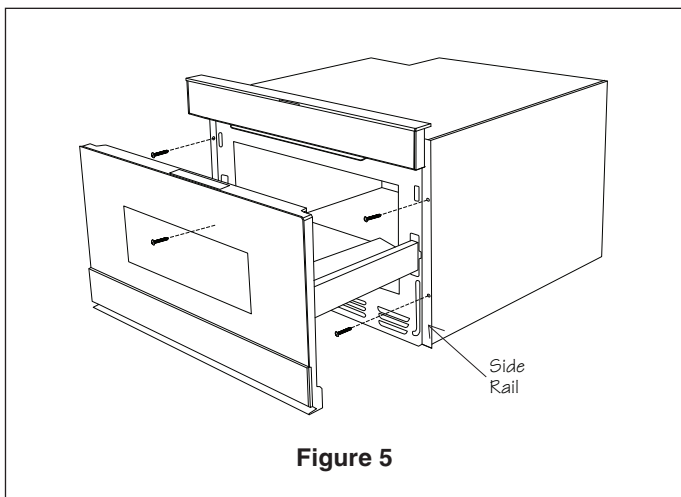

Figure 5
8. Open the drawer to properly align brackets to microwave side rails. See Figure 5.
5. Open the drawer. Using the 4 holes on the drawer as a template, pre-drill the cabinet using a 1/16" (1.6 mm) bit. Secure the drawer with the 4 screws supplied. See Figure 5.